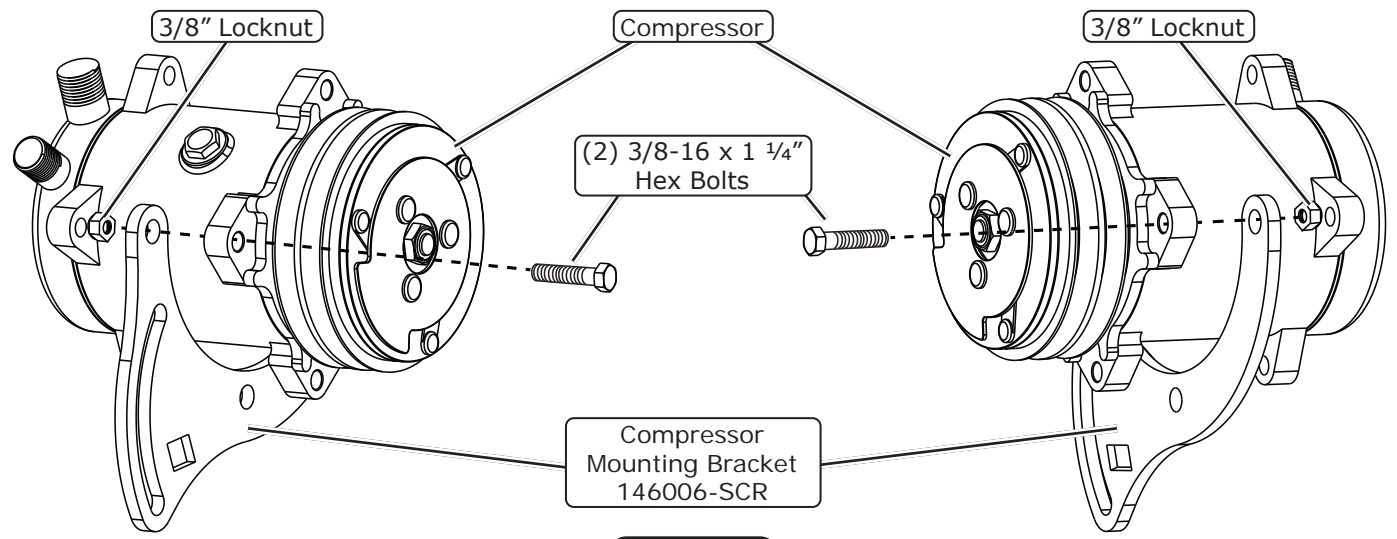

Figure 1
1. Install the compressor mounting bracket onto the compressor using (2) 3/8-16 x 1 1/4" hex bolts and (2) 3/8" locknuts as shown in Figure 1, below.
1. Route belts as shown in Figure 1, below. Vintage Air recommends using only Dayco, Gates or Goodyear brand reinforced V-belts with this compressor. Any use of lesser-quality belts may cause the compressor to perform improperly. A compressor belt length of 58" to 59" is recommended. **NOTE: This can vary with the diameter of the water pump and crankshaft pulleys.**